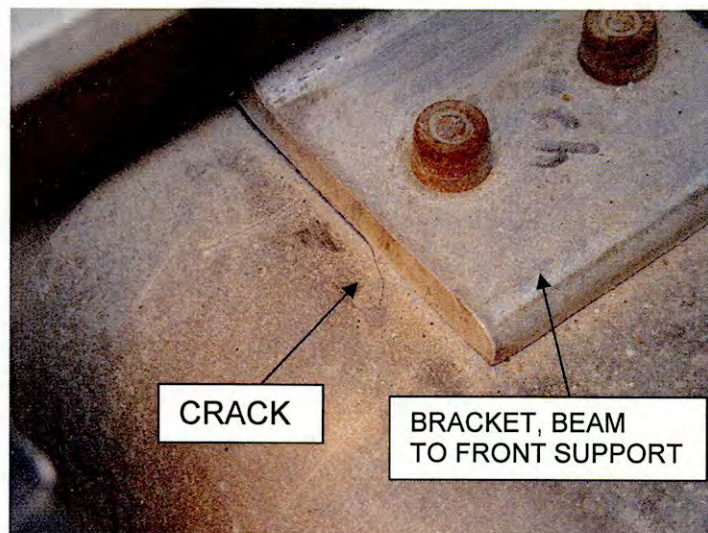

Figure 1
To determine whether this update can be made to a trailer the following criteria applies. Figure 1 below shows a bracket connected to a front support. A small crack extends along and to the outside of the bracket in the front support.
1. Remove the BRACKET, BEAM TO FRONT SUPPORT which connects the front support to the beam web (shown in Figure 1 on the first page). Cut the connecting bolts off with an abrasive cutting wheel or drill through the heads of them and then punch out - **do not chisel fasteners off as this will elongate holes you will need to reuse.**